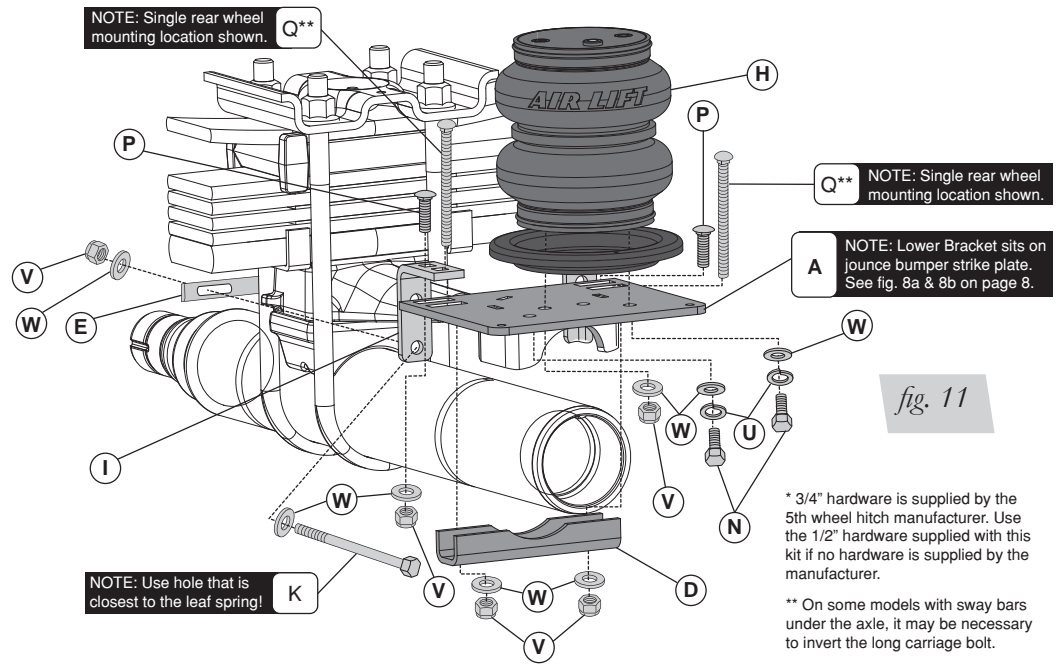

fig. 11
3. Attach the locating bracket (I) to the lower bracket with a 3/8-16 x 1.25" carriage bolt (P), flat washer (W) and nyloc nut (V) using the remaining slot in the top of the locating bracket. Leave loose at this time.
5. Using the 3/8-16 x 5.5 hex head bolts (K) and flat washers (W) previously installed on the locating brackets, insert them into the spring clamp bar (E) on the opposite side of the leaf spring assembly (fig. 11). Cap with 3/8" flat washers (W) and nyloc nuts (V). Leave loose at this time.